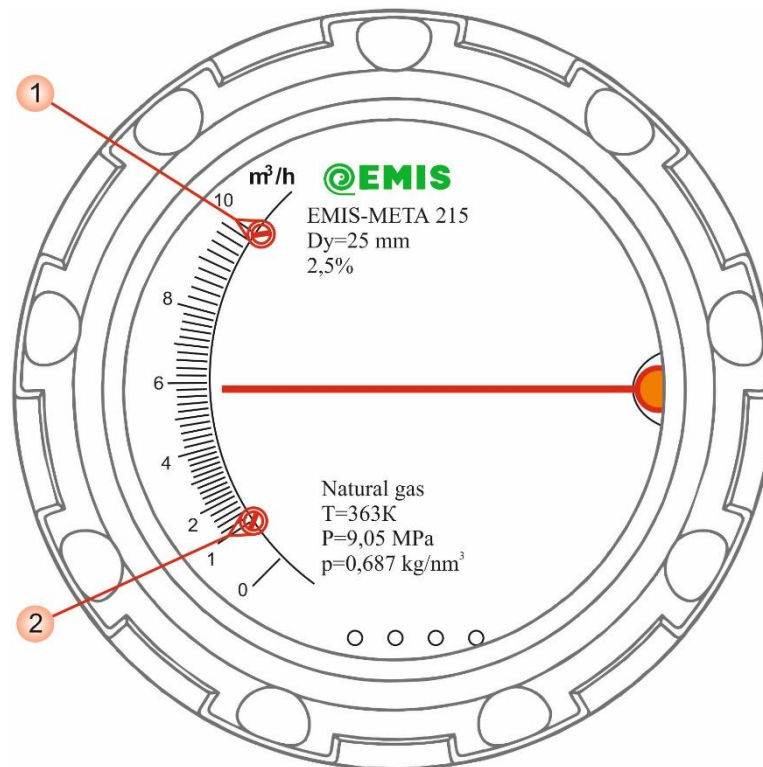

Fig. 1.5 - Limit switches
Fig. 1.5 shows front panel of a rotameter with installed limit switches. When the arrow reaches the upper (1) or lower (2) limit switch activates. Limit switch signals can be used for light/sound alarm or other purposes.